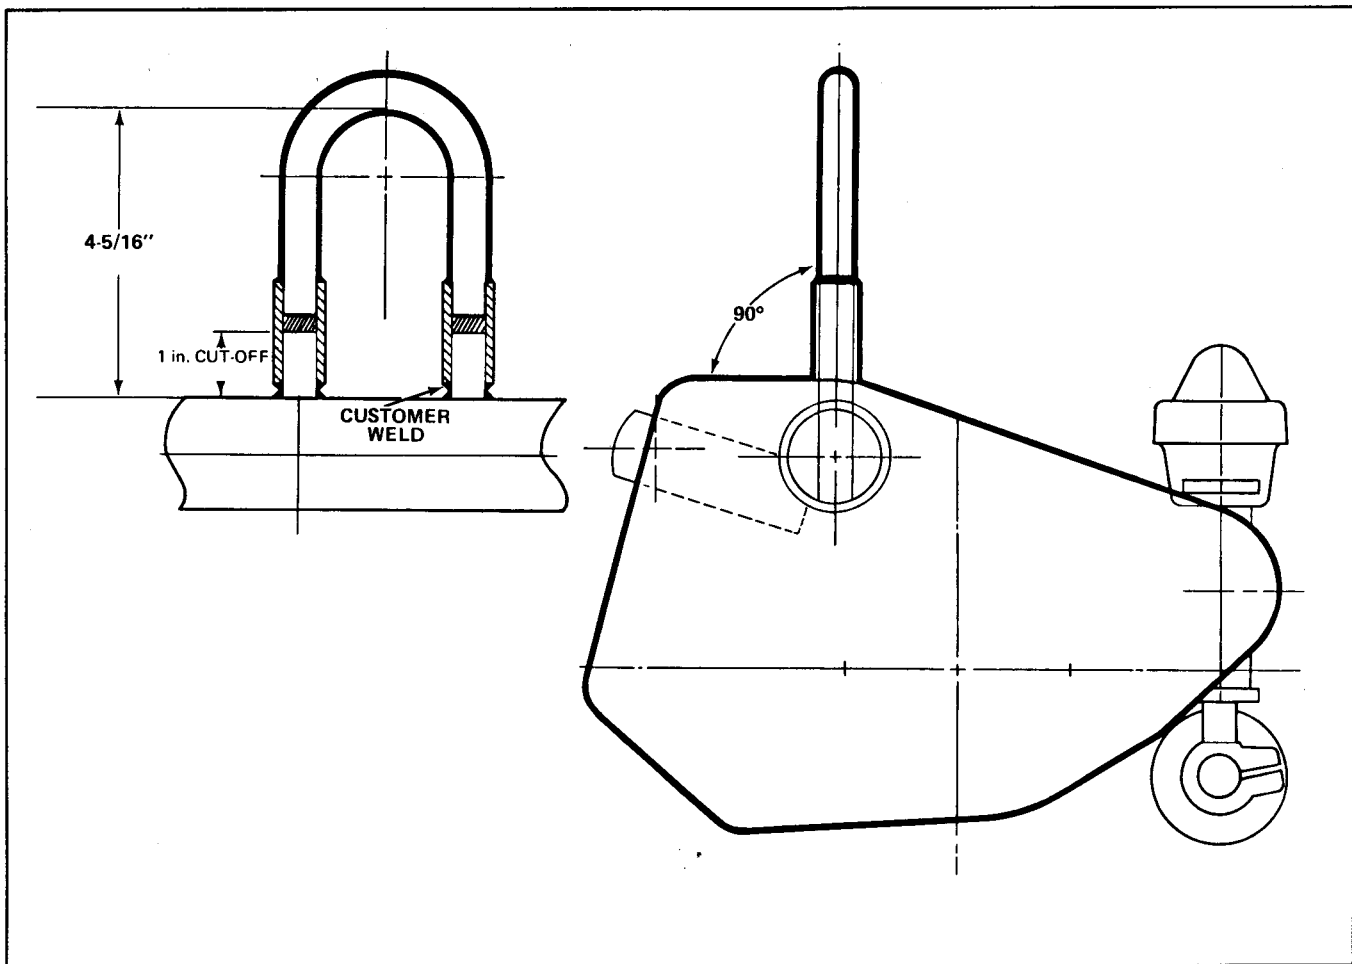

Figure 30
1. Use a saw to cut the lift bail off of the cutting unit. Make the cut 1 inch from the horizontal frame tube (Fig. 30).